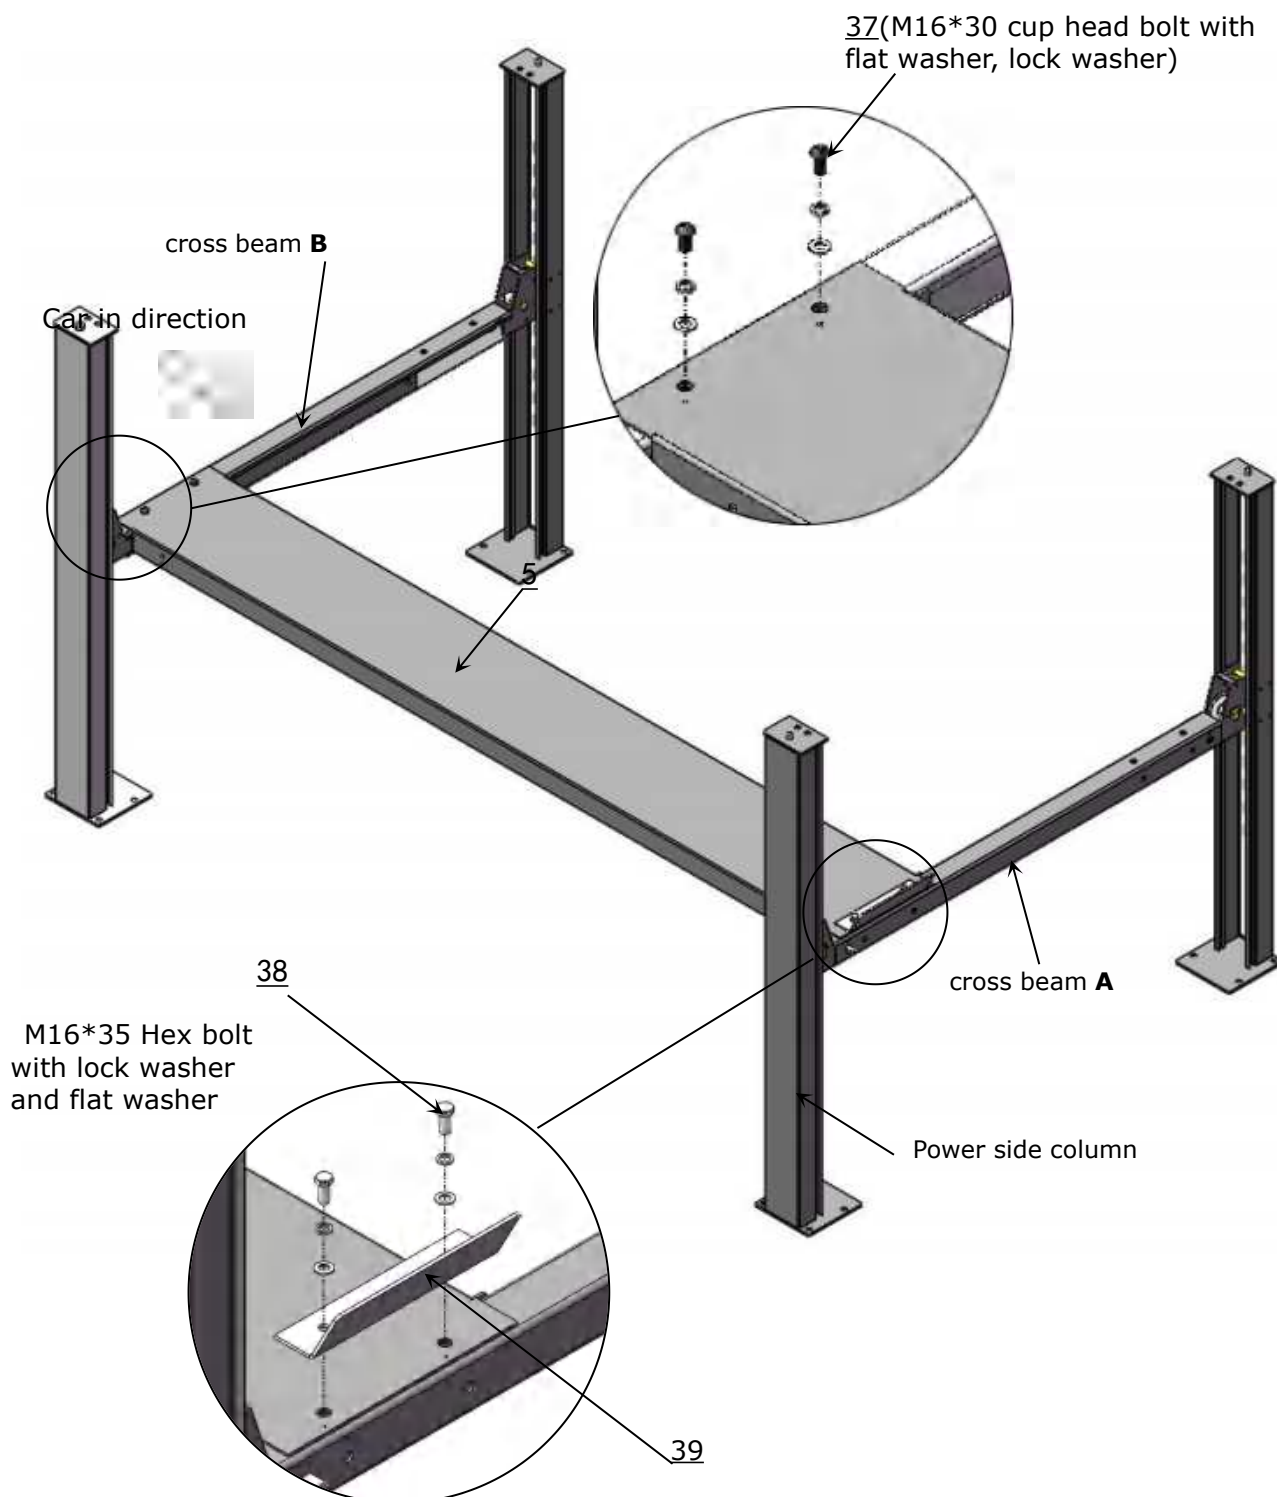

Fig. 21
2. Install connecting bolts of tire stop and platforms: Tighten cross beam B and platform with round head socket bolts, tighten cross beam A, platform and tire stop plate with hex bolts. (Note: Tire stop plate should be installed at the front direction. Hex bolts are used for tire stop plate, and the round head socket bolts are for the other side), **See Fig.21**